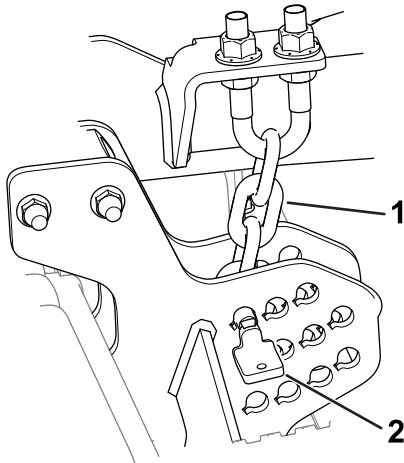

Figure 19
2. Remove the height-of-cut pins (Figure 19) from the cutting-unit side plates.